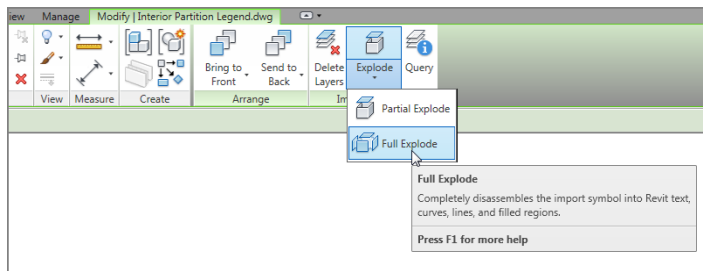

FIGURE 11.58: Click the **Full Explode** button on the **Modify | Interior Partition Legend.dwg** tab.
2. On the Modify | Interior Partition Legend.dwg tab, click **Explode** > **Full Explode**, as shown in Figure 11.58.